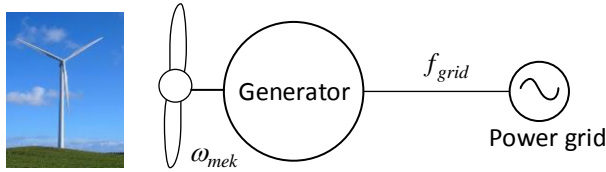

Figure 3: Wind turbine generator connected to a power grid
A wind turbine generator is directly connected to a power grid with fixed frequency $f_{grid} = 50\text{ Hz}$ as shown in Figure 3. The system does not have any mechanical gear, but the generator is equipped with an unknown number of poles. ω_{mek} is the mechanical speed of the turbine and generator.
- d) Assume $\omega_{mek} = 7.85 \text{ rad/s}$ and wind speed $v = 6 \text{ m/s}$. Explain why the wind turbine configuration in Figure 3 is not optimal if the goal is to produce as much power as possible.